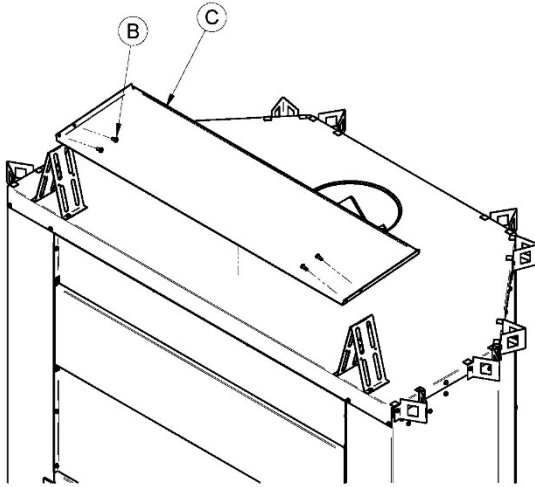

Figure 6
3. As illustrated in **Figure 6 and 7**, position the heat shield **(C)** between the spacers previously installed with the folds facing up. Align the holes of the shield with the ones of the left and right spacer and secure it with 4 screws **(B)**.